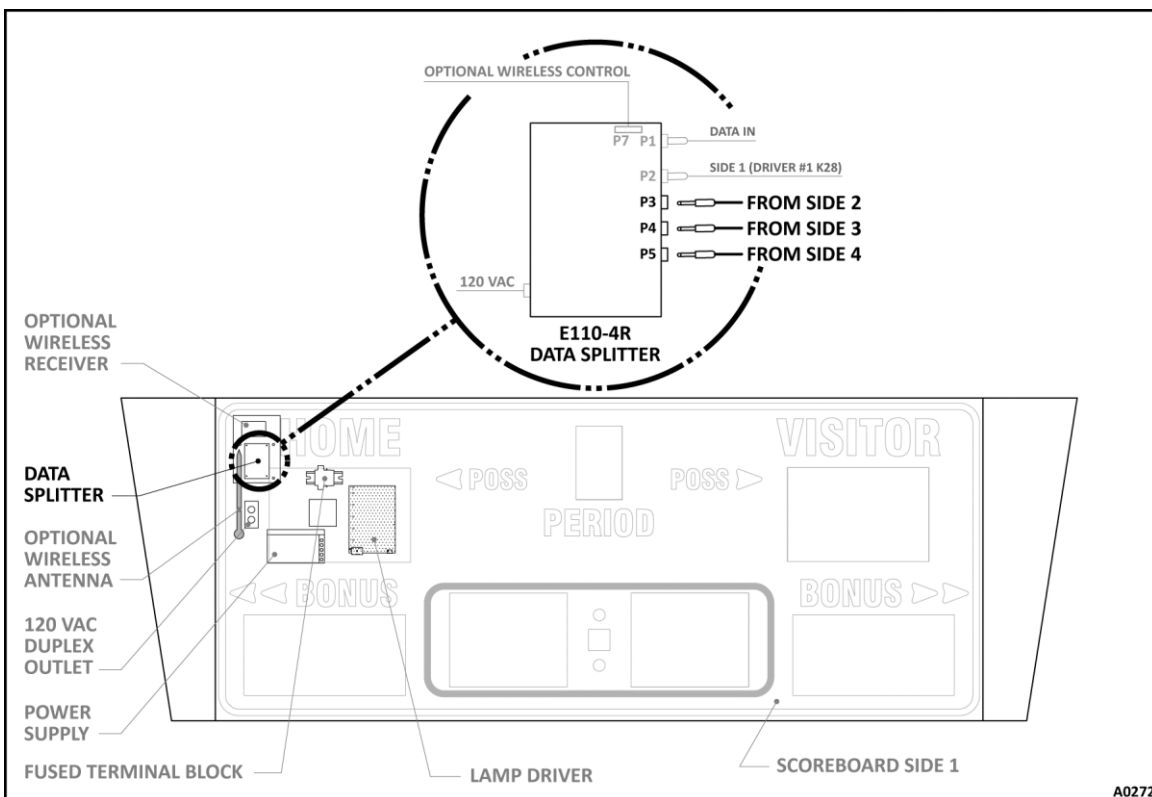

FIGURE 6 – FOUR-SIDED SCOREBOARD DATA SPLITTER CONNECTIONS
- c. **Connect the data harness** – into the **K28** data-in terminal of the **SIDE 2 LAMP DRIVER**. See Figure 6 below
- Connect data harness** – from **SIDES 2, 3 and 4** to **DATA SPLITTER** in **SIDE 1**. See Figure 6 below.